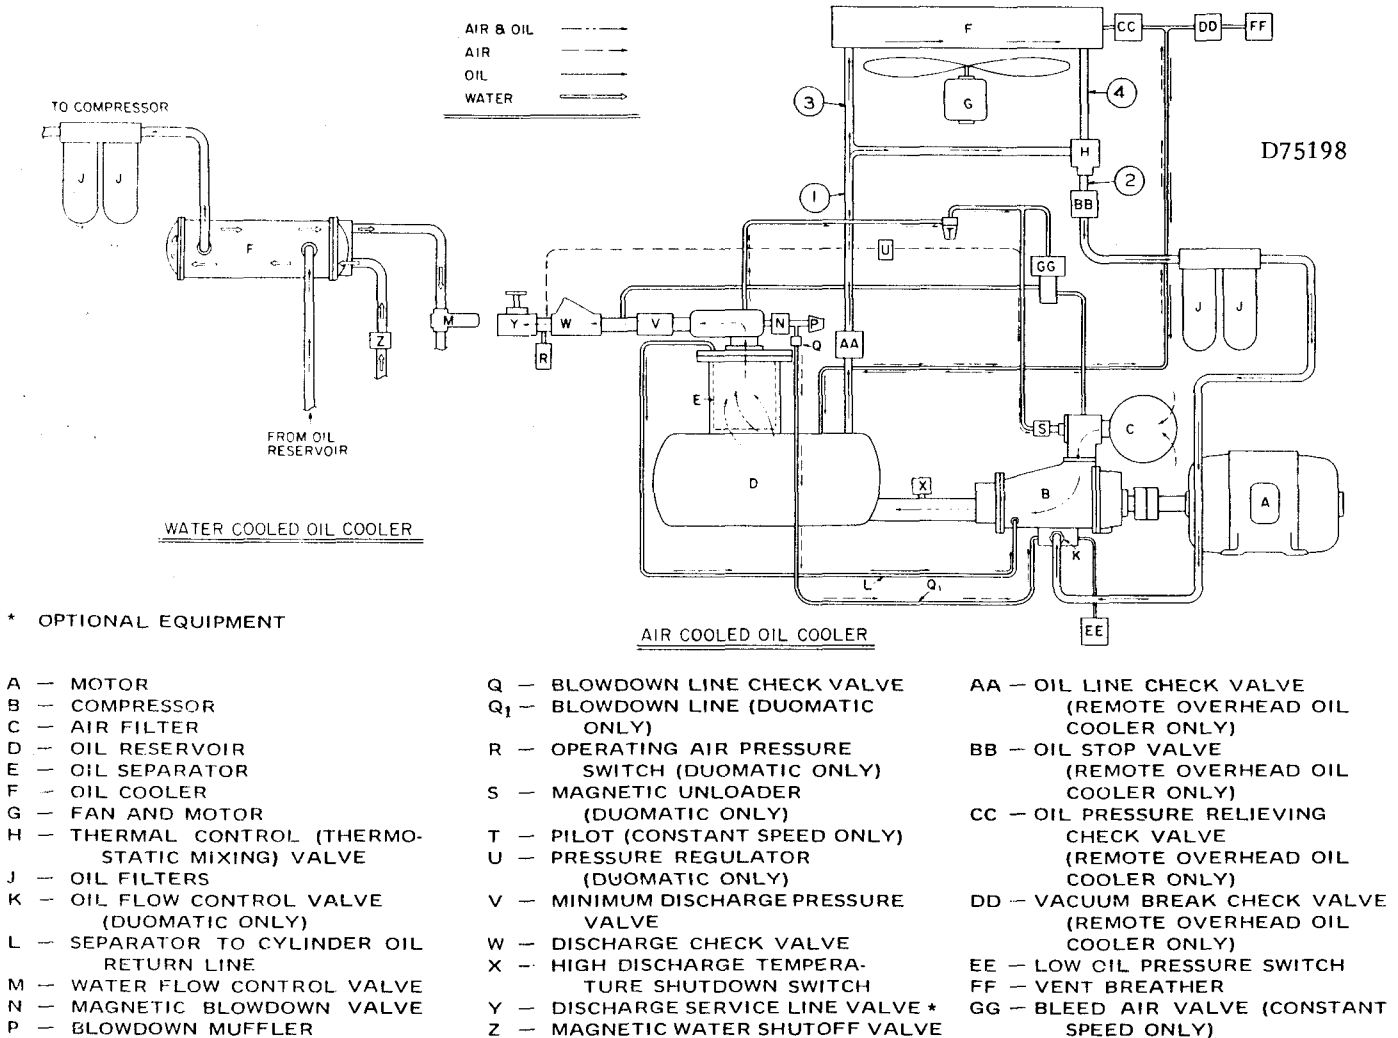
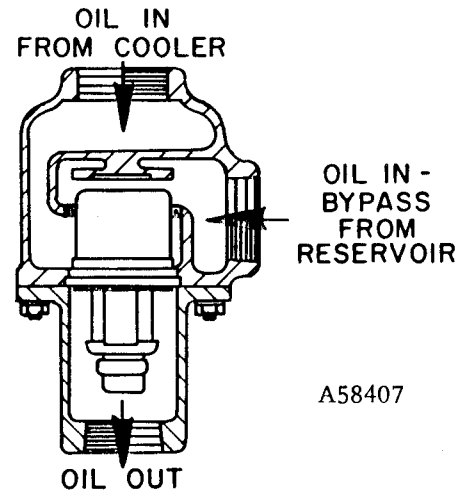
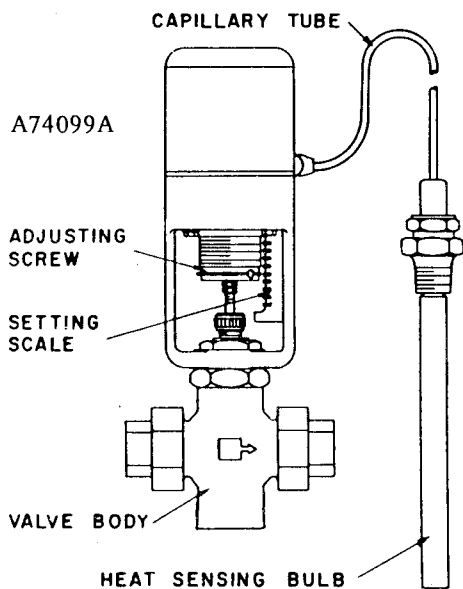

FIGURE 1-5. — FLOW DIAGRAM — AIR-OIL SYSTEMS
FIGURE 6-5. — THERMAL CONTROL (THERMOSTATIC MIXING) VALVE
FIGURE 7-5. — WATER CONTROL VALVE
**COMPRESSOR OIL SYSTEM** (Figures 1-5 & 2-5) cools the compressor, lubricates moving parts and seals internal clearances in the compression chamber.
**THERMAL CONTROL (THERMOSTATIC MIXING) VALVE** (Used With Radiator-Type Oil Cooler Only) (Figure 6-5) is installed in the system as shown in the flow diagram, Figure 1-5. On start-up with unit cold, the element is closed to oil cooler allowing oil to circulate through bypass directly from oil reservoir to compressor during warm-up. As oil warms, element gradually opens to cooler and closes to bypass to allow oil from cooler to mix with oil from bypass. After unit is warmed up, mixing valve maintains oil injected into compressor at a minimum of 130° F. This system
To check element, heat in oil – it should be fully extended at 130° F. If unit shuts down due to high air discharge temperature, the cause may be that the element is stuck closed to the cooler thus blocking cooler out of the system, in which case lines 1 and 2 (Figure 1-5) will be hot to the touch and lines 3 and 4 much cooler. When flushing the oil system, remove mixing valve and clean all parts thoroughly.
**COMPRESSOR OIL COOLER – WATER-COOLED HEAT EXCHANGER** (Figure 4-1) – The heat exchanger oil cooler is a multiple pass type, with water in the tubes and oil in the shell. The water flow is regulated by a self-operated flow control valve (Figure 7-5) installed in the water outlet line from the oil cooler as shown in the flow diagram (Figure 1-5) and designed to maintain the oil injected into the compressor at a minimum of 130° F. See "Oil Specifications" above for the maximum allowable oil inlet temperature. The valve's temperature sensing bulb is located in the oil outlet line of the oil cooler. An oil temperature change at the bulb operates the valve, increasing or decreasing the water flow, to maintain the oil temperature within the set range. The instrument panel thermometer indicates the oil temperature to the compressor.
**WATER FLOW CONTROL VALVE FOR HEAT EXCHANGER** (Figure 7-5) — The water flow control valve is adjustable to compensate for varying inlet water temperatures. Use the oil temperature thermometer on the instrument panel in setting the flow control valve. To decrease water flow (increase oil inlet temperature) turn the adjusting screw from left to right, increasing spring tension. To increase water flow (decrease oil inlet temperature) turn the adjusting screw in the opposite direction. The numbered scale on the valve bonnet is to be used as a guide when changing the setting of the adjusting screw.
**WATER SHUTOFF VALVE — WATER-COOLED HEAT EXCHANGER** (Figure 1-5) — A magnetic solenoid-operated water shutoff valve rated at 150 PSIG water pressure is supplied in the water inlet line ahead of the oil cooler. The valve is wired into the compressor control circuit and opens to allow water to flow any time the ON-OFF push button is ON and the compressor is running. When compressor stops under automatic control, or is shut off manually, the valve closes, stopping water flow through the system.